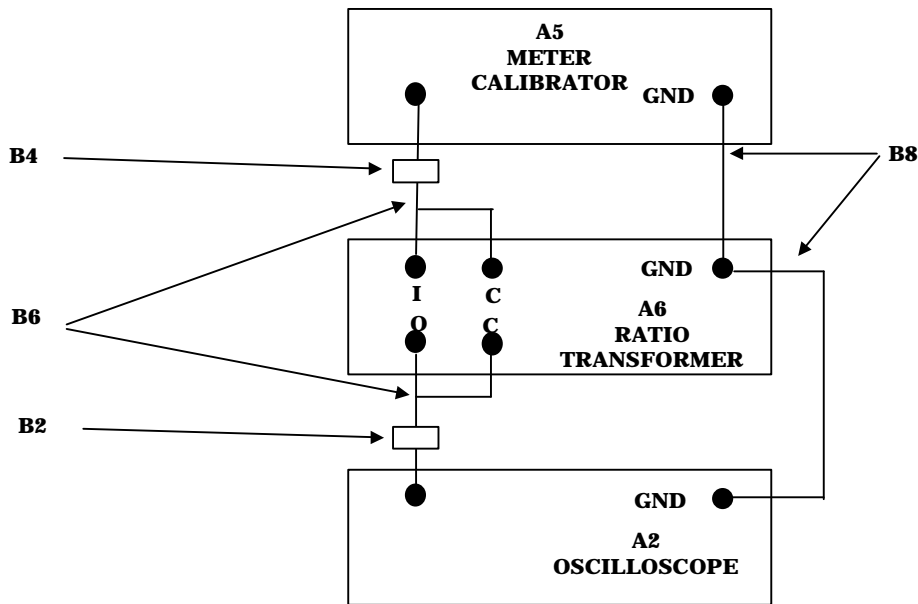

Figure 2. Gain and input attenuator setup.
- (1) Connect equipment as shown in figure 2.
- (2) Set TI **INPUT SELECTOR** switch to **A-DC**.
- (3) Set TI **VOLTS/CM** switch to settings listed in table 8 and perform the following: